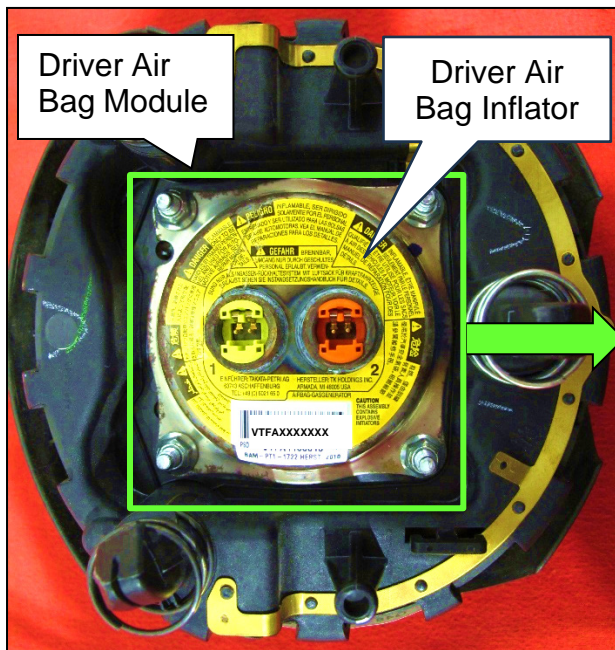
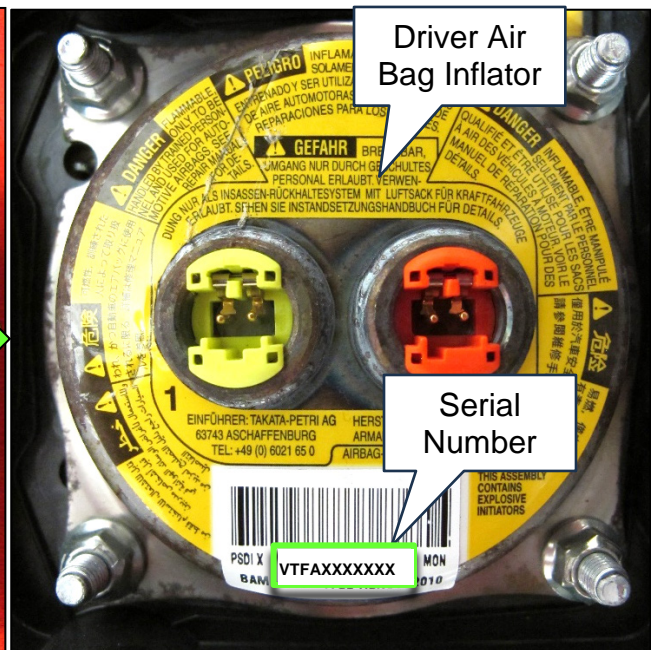

Figure 6
Figure 7
11. Locate the bar code Serial Number (11 digits) on the inflator of the Driver Air Bag Module, as shown in Figure 6 and Figure 7.